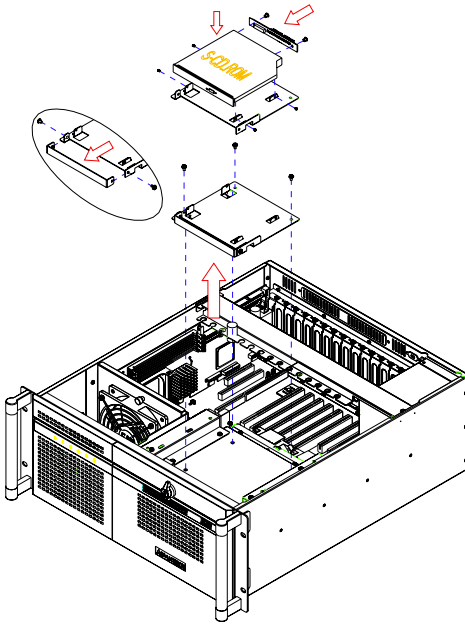

Figure 2.9: Installing the slim-type optical disk drive
5. Undo the screws on the slim-type optical disk drive bracket and its front cover. Then fix the optical disk drive to the bracket with the four screws provided. (see Figure 2.9)